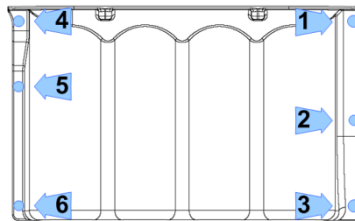

Figure 28 – Capacitor Cover Torque Sequence
34. Place the Capacitor Cover and secure it with the long screw (M5 x 20) and flat washer in position number three (3) as shown in the following figure. Use five (5) remaining screws to secure the cover. Fasten according to the sequence in Figure 28 (Capacitor Cover Torque Sequence). Follow the sequence twice.